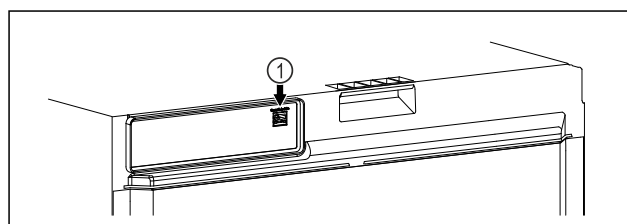

Fig. 101
- ☐ SmartModule Fig. 101 (1) has been inserted.